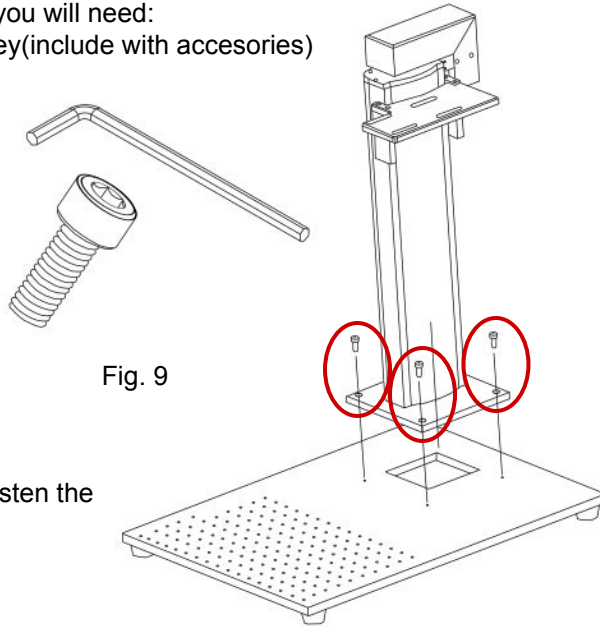

Fig. 9
2. Use the included M6 screws to fasten the base to the stage. (See Fig.9)